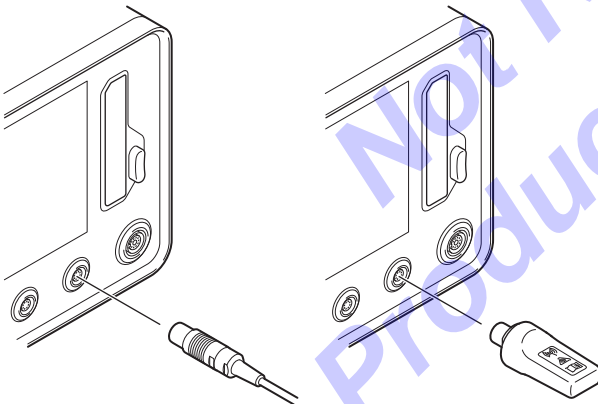

**Figure 123 – Sterile Drape Removal**
2. Remove the hand controller body from the sterile drape (Figure 123).